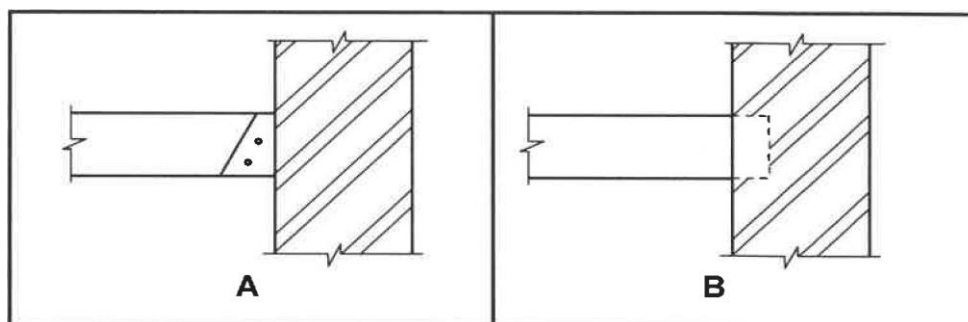

FIGURE 6.7
- 6.7 FIGURE 6.7 below shows two methods of joining floor joists to wall in upper level suspended timber floor. (6)